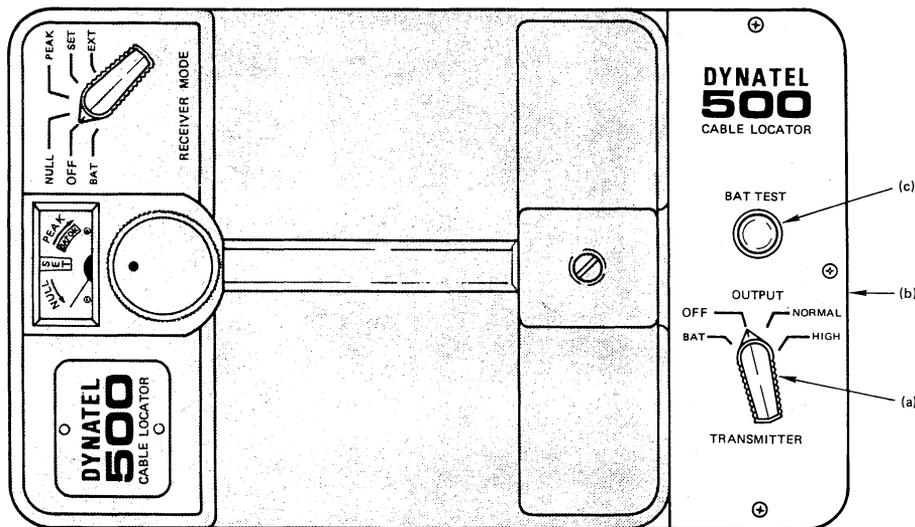

Fig. 3 — Transmitter Unit Panel. Functions are Keyed to Text in Paragraph 2.02.
2.02 The TRANSMITTER has a single switch located on the panel next to the accessory storage well, as shown in Figure 3 and described below: